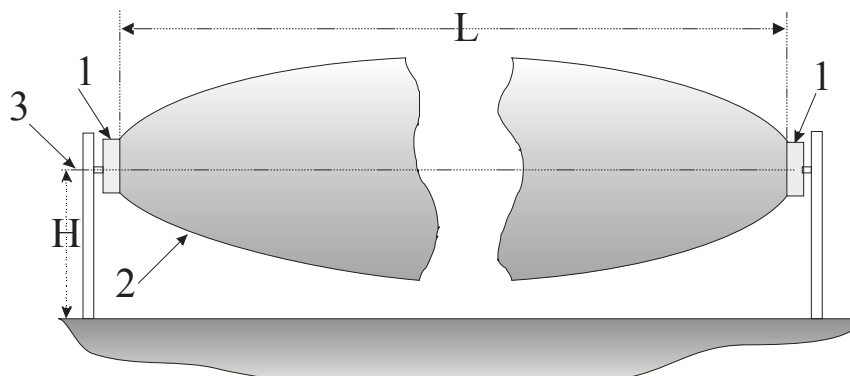
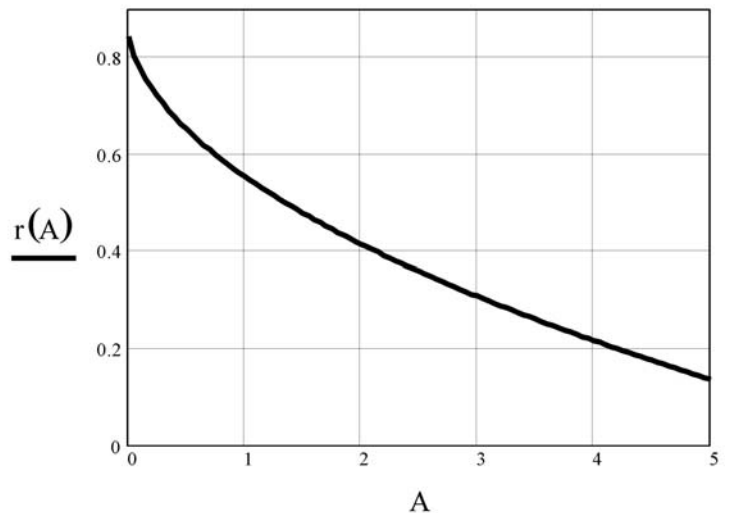

Fig. 4.1
Fig. 4.3
4.2. TU "1" (see Fig.4.1) and RU "1" are placed facing each other so that the DA guards the monitored sector. DA "2" is an ellipsoid of revolution with its longer axis coaxial to a nominal line "3" that connects the centers of the RU and TU "1" installed at a height "H" from the ground surface at a distance "L" from each other. *Note. Except where specifically indicated, all distances herein shall be specified in meters*
4.5 Selecting a height of placement, note that when approaching the TU (RU) along the axis the DA “separates” from the ground as shown in Fig. 4.1, 4.3. Fig. 4.3 shows how the distance “ $r(A)$ ” from the lower limit of the SA to the ground surface depends on approaching the TU (RU) to a distance “ A ”. The calculation assumes that the centers of units are at a height of 0.9m from the ground surface and the surface itself is plane at the specified distance from the units. At a zero